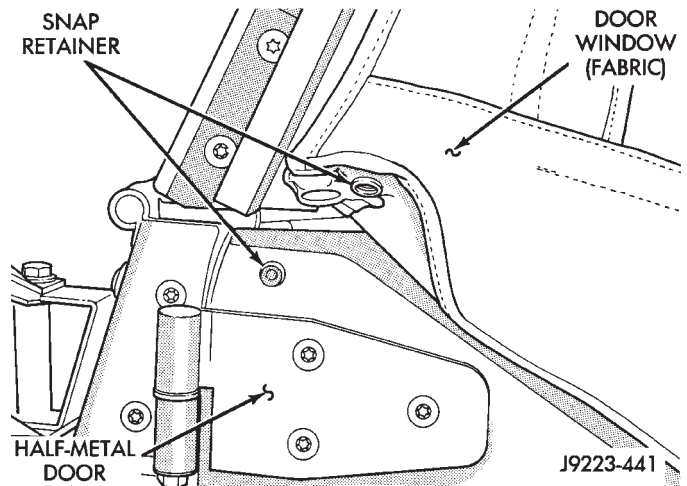
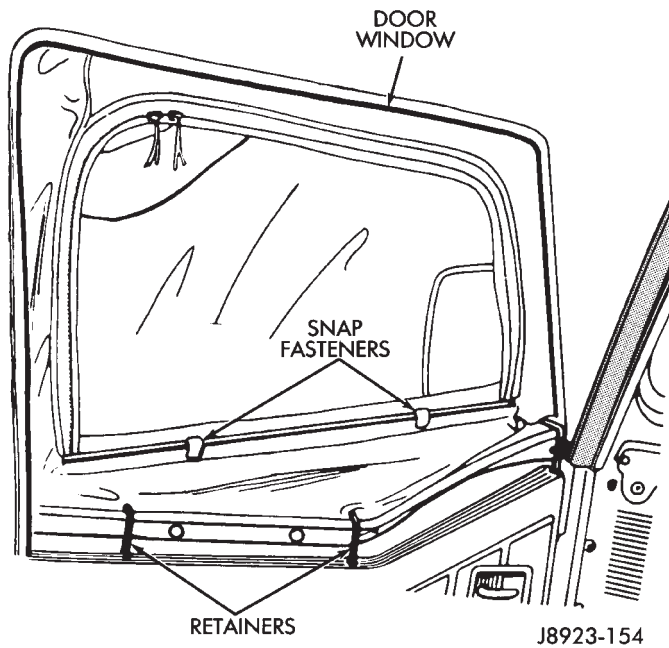

Fig. 100 Door Window Snap-On Retainer
Fig. 101 Door Window Removal/Installation
- (3) Detach the snap-on retainer at the front corner (Fig. 100, turn the retainers and remove the door windows (Fig. 101).
(17) Install the door windows by inserting the retainers into the door grommets. Attach the snap-on retainers located along the bottom edge of the window to the door retainer (Fig. 100).